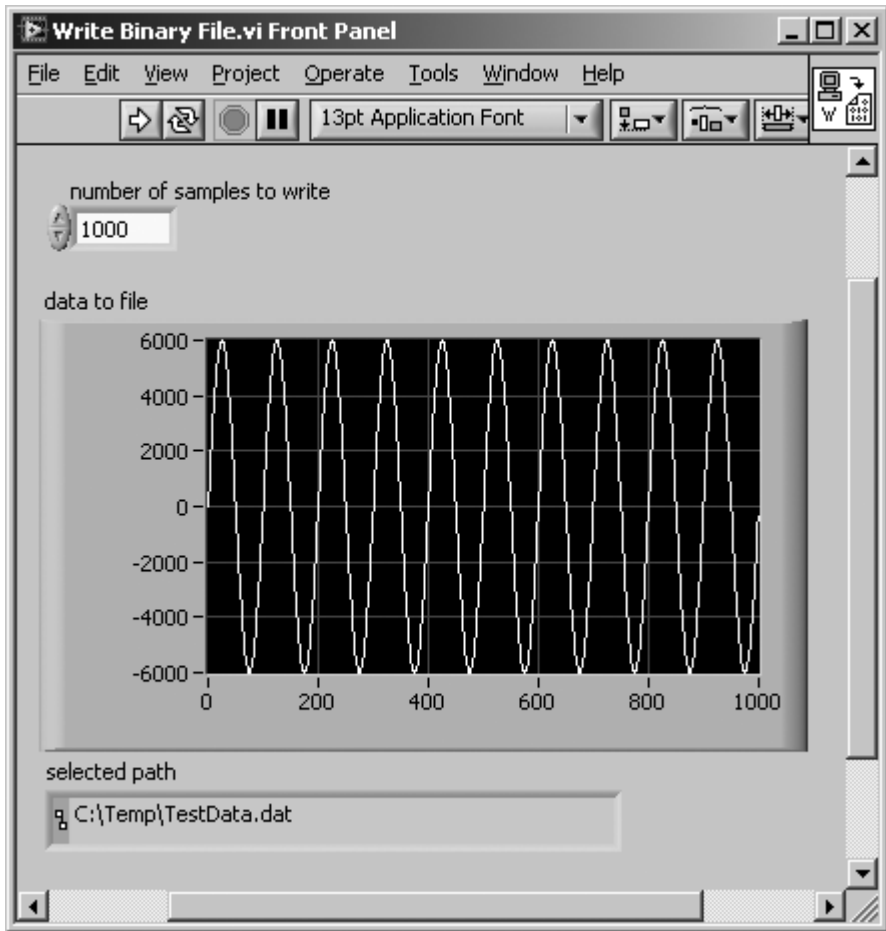

Figure 14.20
1. First, create a VI called `Write Binary File Advanced.vi` with a front panel like the one shown in Figure 14.20.